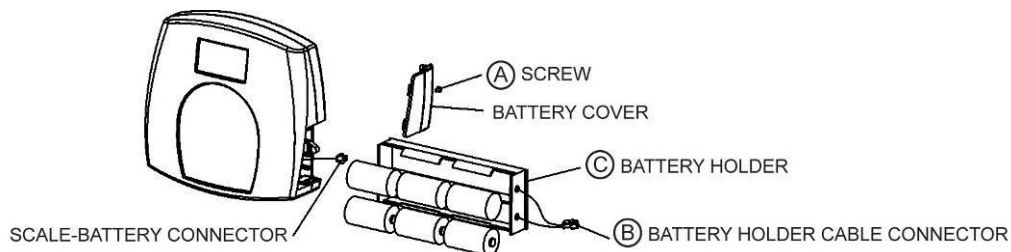

Figure 2 - Batteries
7. The scale is now assembled. Plug the scale adapter into a power source and / or insert batteries—see the batteries section / Figure 2 for more information regarding batteries.
2. Place batteries in the battery holder (see "Batteries" information in Figure 2, below).
2. Remove the battery cover from the display assembly—refer to Figure 2 (A) above.
3. Disconnect battery holder cable connector from the scale-battery connector (B).
4. Carefully remove the battery holder (C) by sliding it out of the display assembly.
6. Carefully slide the battery holder (C) into the display assembly.
7. Plug the battery holder cable connector to the scale-battery connector (B).
8. Attach the battery cover to the display assembly and install the screw (A).